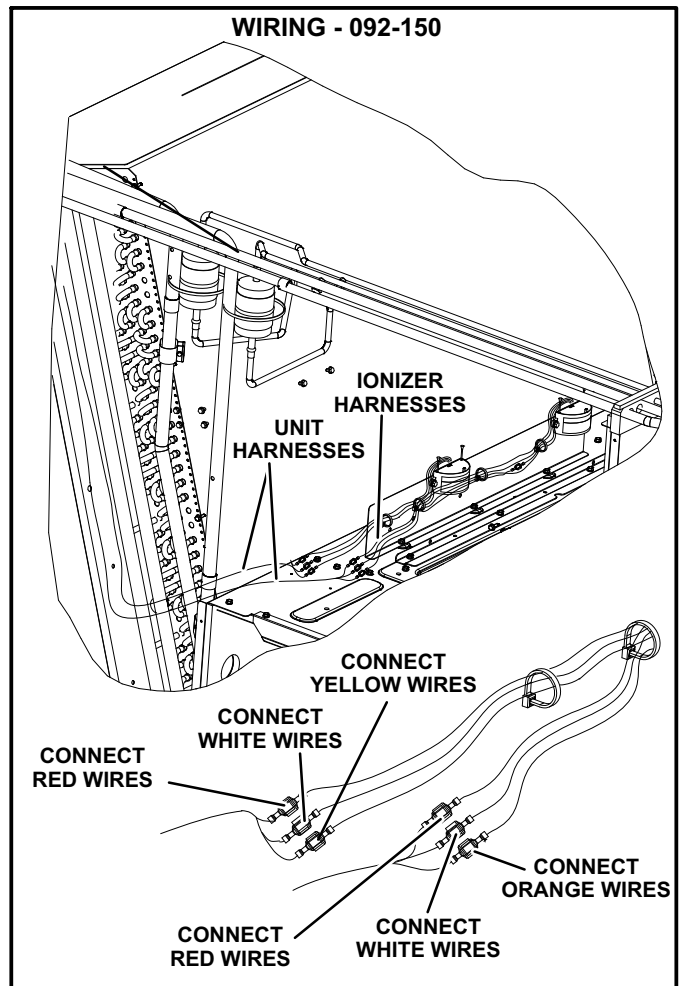

FIGURE 7
- Figure 7 - LGM/LCM/LGT/LCT/LHT/LDT078-150